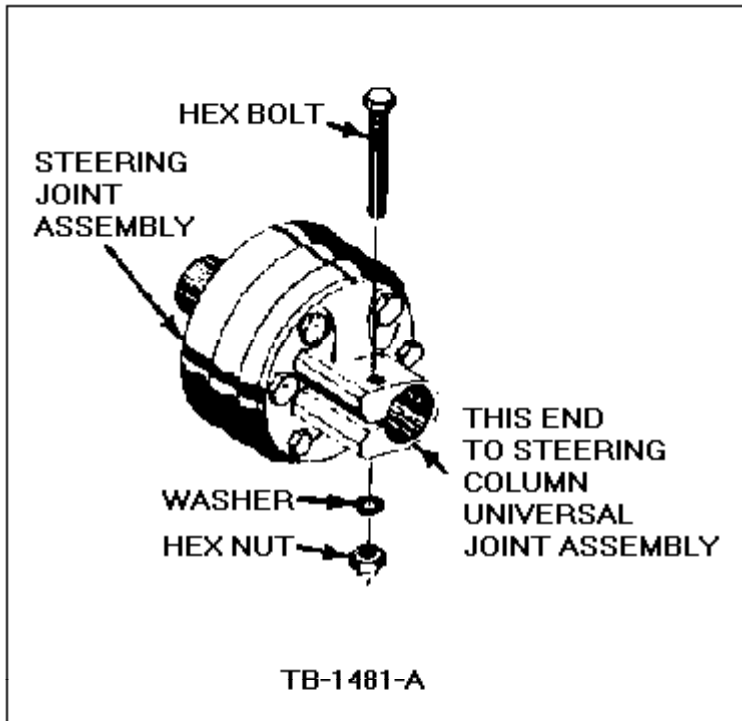

Figure 14 - Article 90-5-10
16. Remove the nut, washer, bolt and steering joint assembly from the lower end of the universal joint assembly, Figure 14.